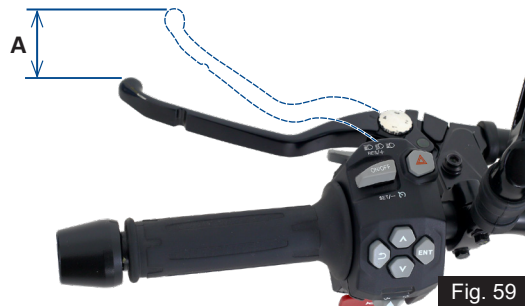

Fig. 59
- Measure the clutch free play (A) at the lever end as shown (**ref. Fig 59**).